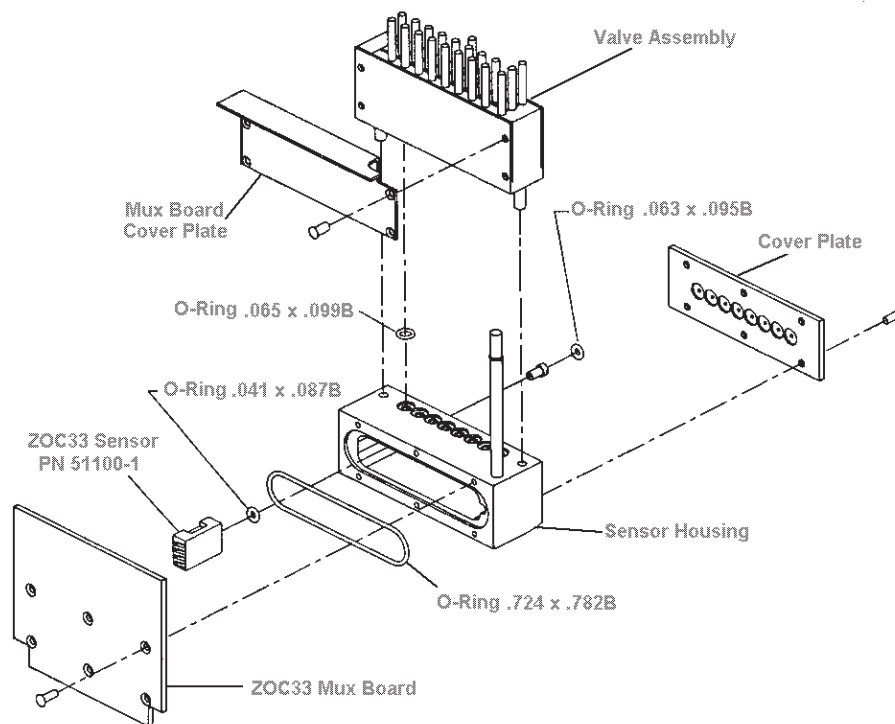

FIGURE 3.8 - ZOC33 SENSOR PACK EXPLODED VIEW
Each eight (8) channel sensor pack has its own combination multiplexer and excitation board. The board consists of a precision voltage regulator, eight sensor mounts, and a multiplexer. The board is installed on the sensor housing (Figure 3.8).